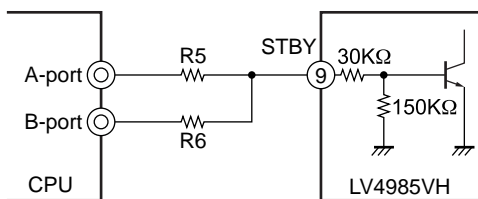

Fig. 1
As shown in Figure1, by controlling the standby pin, the mode changeover can be made between standby mode, single-ended (SE) operating mode, and BTL operating mode.